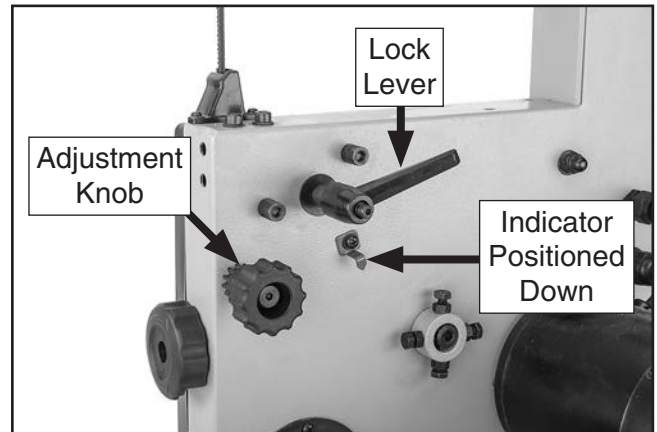

Figure 12. Location of table controls that must be removed or adjusted.
2. Loosen scale indicator and position it down (see **Figure 12**), then remove table tilt lock lever, flat washer, table tilt adjustment knob, and shoulder bolt with spring (see **Figure 12**).